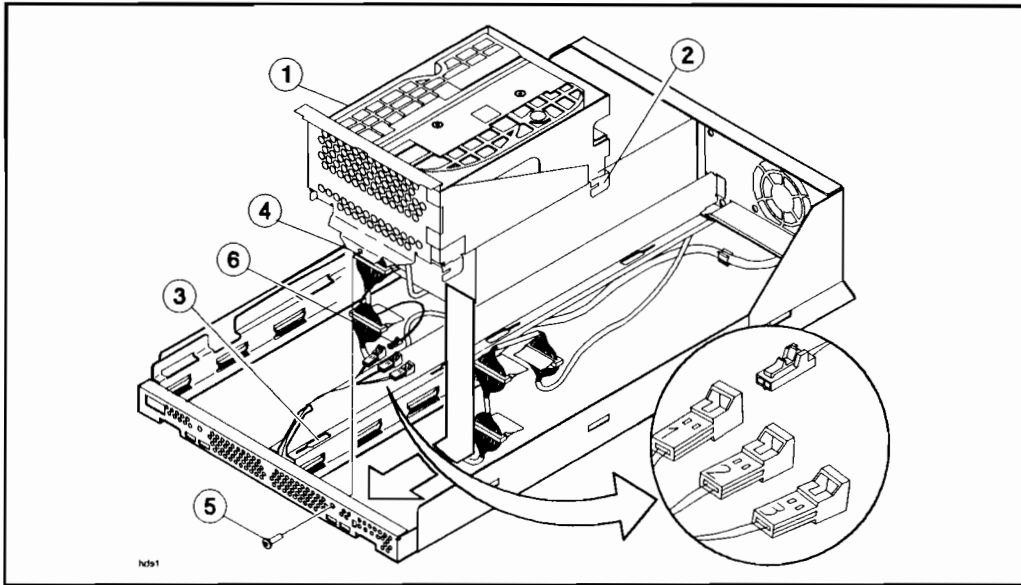
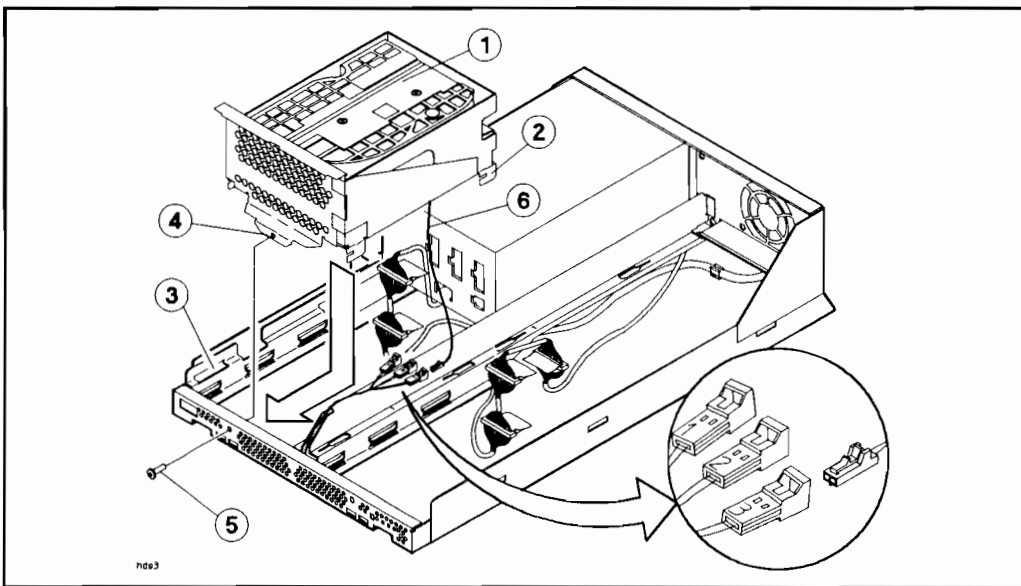
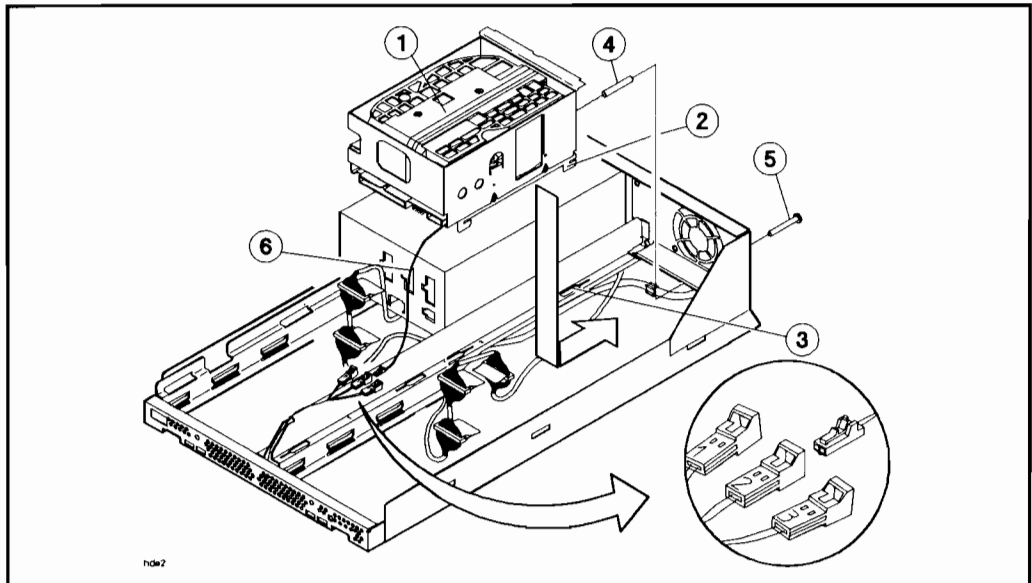

Figure 2-5. Installing a Device into Slots 1/5
Figure 2-6. Installing a Device into Slots 3/4
Figure 2-7. Installing a Device into Slot 2
To install a device into slots 1/5 or slots 3/5 (see Figure 2-5 or Figure 2-6):
To install a device into slot 2 (see Figure 2-7):
5. For 5.25-inch hard disk drives only, connect the drive status cable to the appropriate internal status cable (see 6 and inset in Figure 2-5, Figure 2-6, and Figure 2-7).